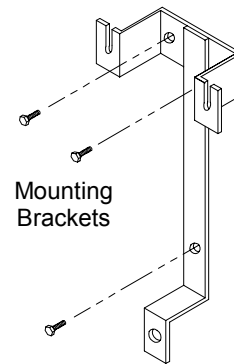

Figure 3
Holding the bracket with the slotted extensions away from the wall, mark the locations for three mounting bolts. (Figure 3).
4. Anchor the mounting bracket to the wall. Selection of mounting fasteners will depend upon wall construction. (Figure 3).